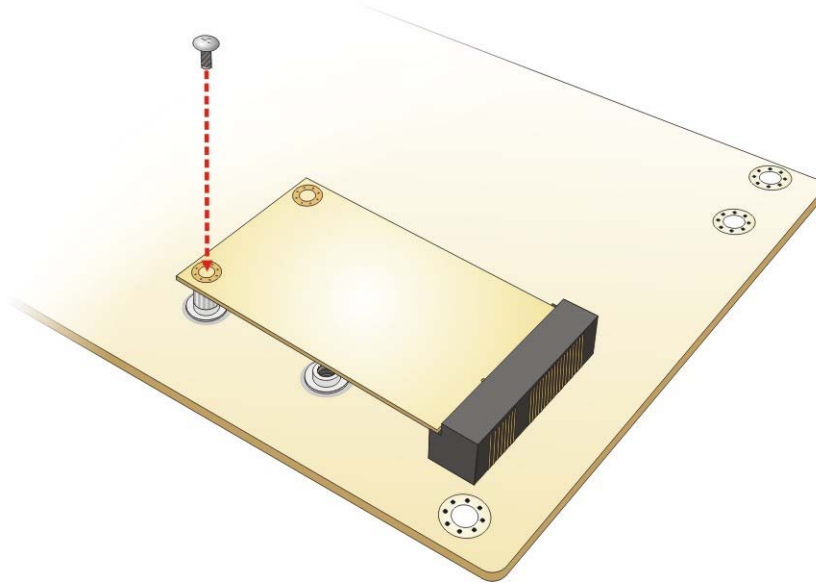

Figure 4-7: Securing the Full-size PCIe Mini Card
Step 4: Secure the full-size PCIe Mini card. Secure the full-size PCIe Mini card with the retention screw previously removed (**Figure 4-7**).